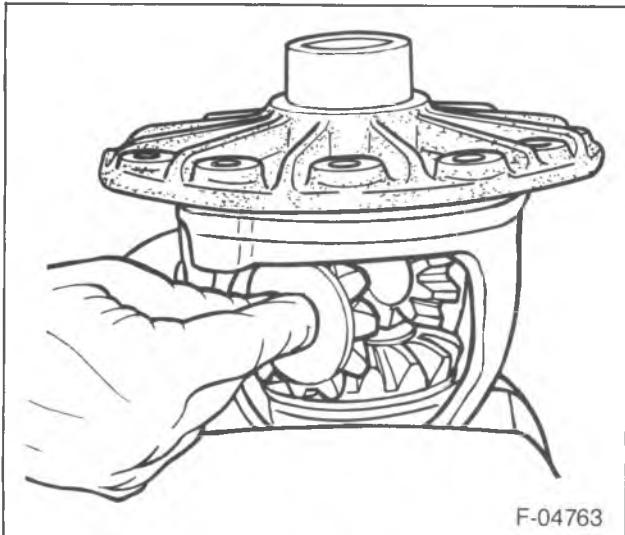
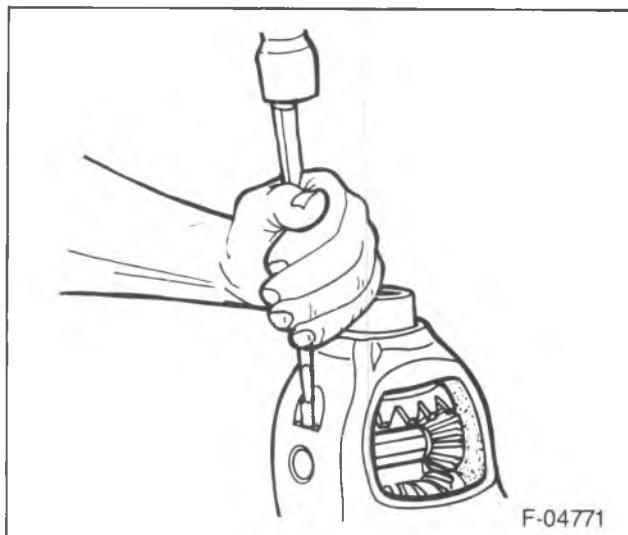

Figure 17—Installing the Pinion Gears
Figure 18—Installing the Lock Pin
- 1. New side gear thrust washers (27) to the side gears (25).
- 2. Side gears (25) to the differential case.
- Place the side gears in place on the same side as removed (figure 17).
- 3. Pinion gears (24) to the differential without the thrust washers (26).
- 4. New pinion thrust washers (26).
- 5. Pinion shaft (28).
- 6. Lock pin (29) (figure 18).
- 7. Ring gear (20) to the differential case (22).